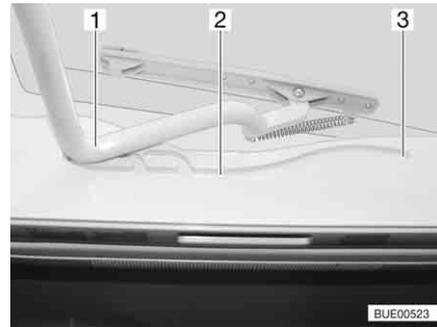

Fig. 85 Heki skylight, guide
- Pull the bar (Fig. 85,1) in the guides (Fig. 85,2) to the rearmost position (Fig. 85,3).
- Use both hands to push the bar (Fig. 85,1) slightly upwards.
- Pull the bar in the guides (Fig. 85,2) to the desired position.